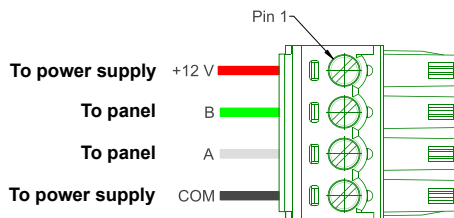

Figure 4 Connect additional touchpads to the Gateway Mark II.
1. Use the included female connector to wire the touchpad's data terminals to the Gateway Mark II as shown in Figure 4, "Connect additional touchpads to the Gateway Mark II."
2. Wire the female connector to the power supply as shown in Figure 4, "Connect additional touchpads to the Gateway Mark II."